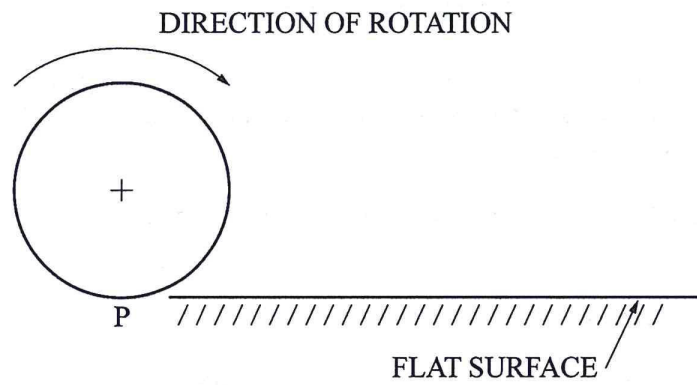

Figure 7
14. Figure 7 shows a wheel whose diameter is 60 mm, rotating along a flat surface without sliding.